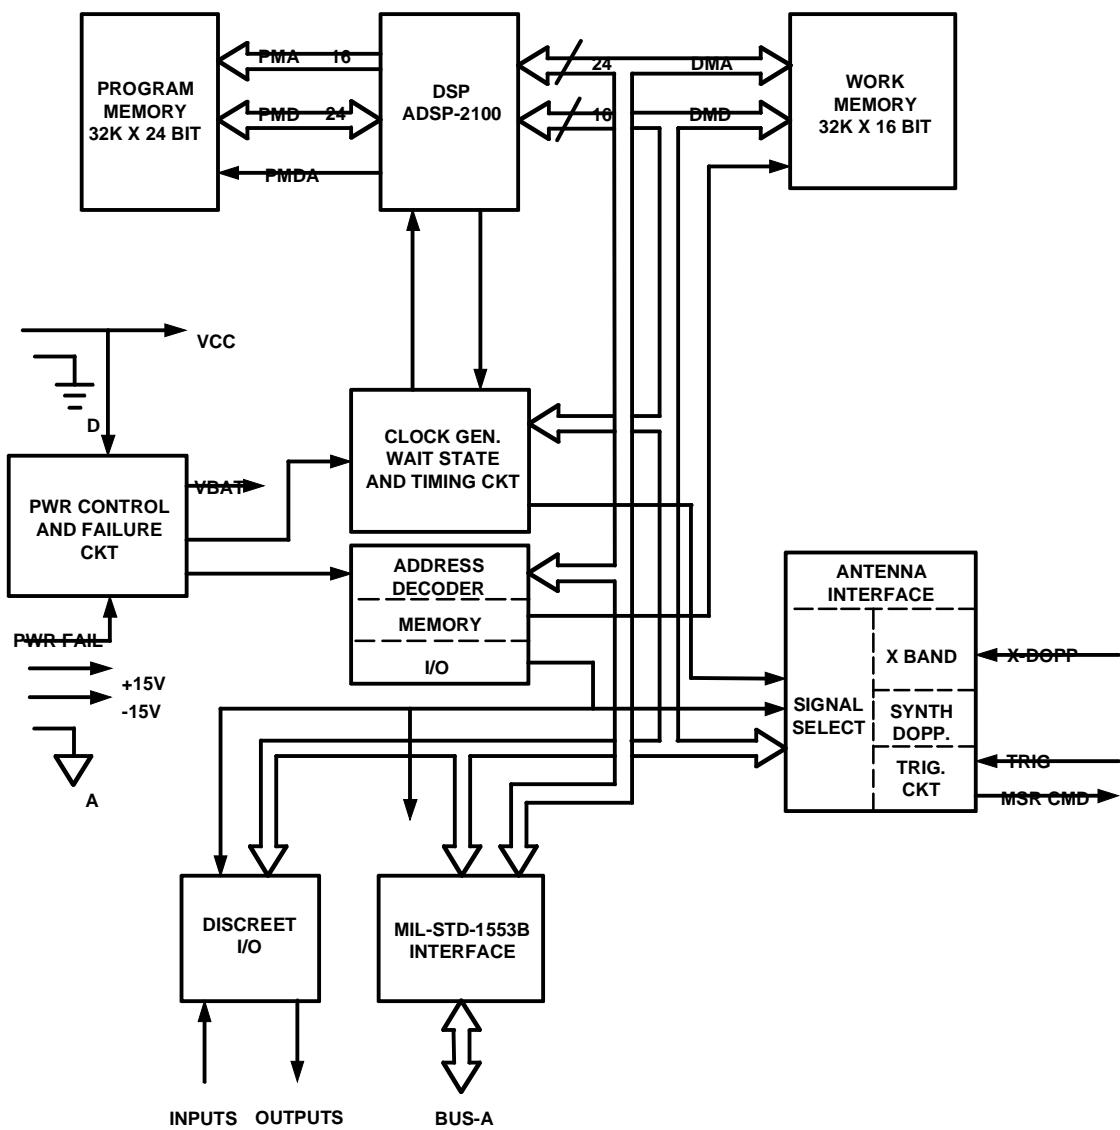

Figure 1-6. MVP Simplified Block Diagram
1.19.5.1 ADSP-2100 DIGITAL SIGNAL PROCESSOR (DSP). For the following description, refer to the block diagram in figure 1-6. The circuits and parameters are as follows: